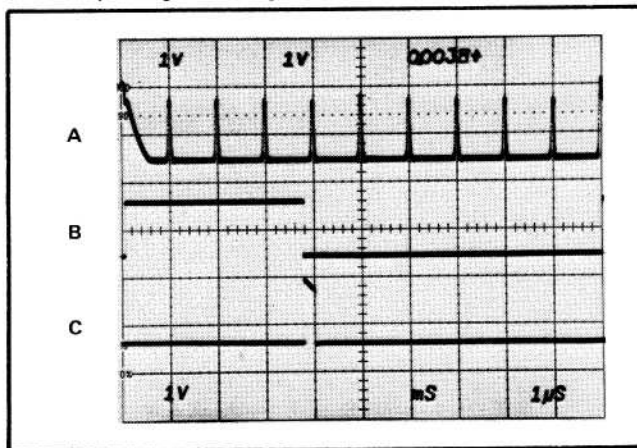

Fig. 1-3. Display showing time relationship of: (A) Input signal to the front-panel, (B) Delay Interval, and (C) Delayed Trigger outputs.
The front-panel output signals are shown in Fig 1-3, along with the input signal. The input signal, Fig. 1-3(A), is comprised of one- and ten-microsecond time markers. The 7D11 is set for a 0.0038-millisecond delay time after triggering on the ten-microsecond markers. The resultant Delay Interval and Delayed Trigger outputs are shown in Fig. 1-3(B) and (C), respectively. The characteristics of these output signals are given in the Specification section.